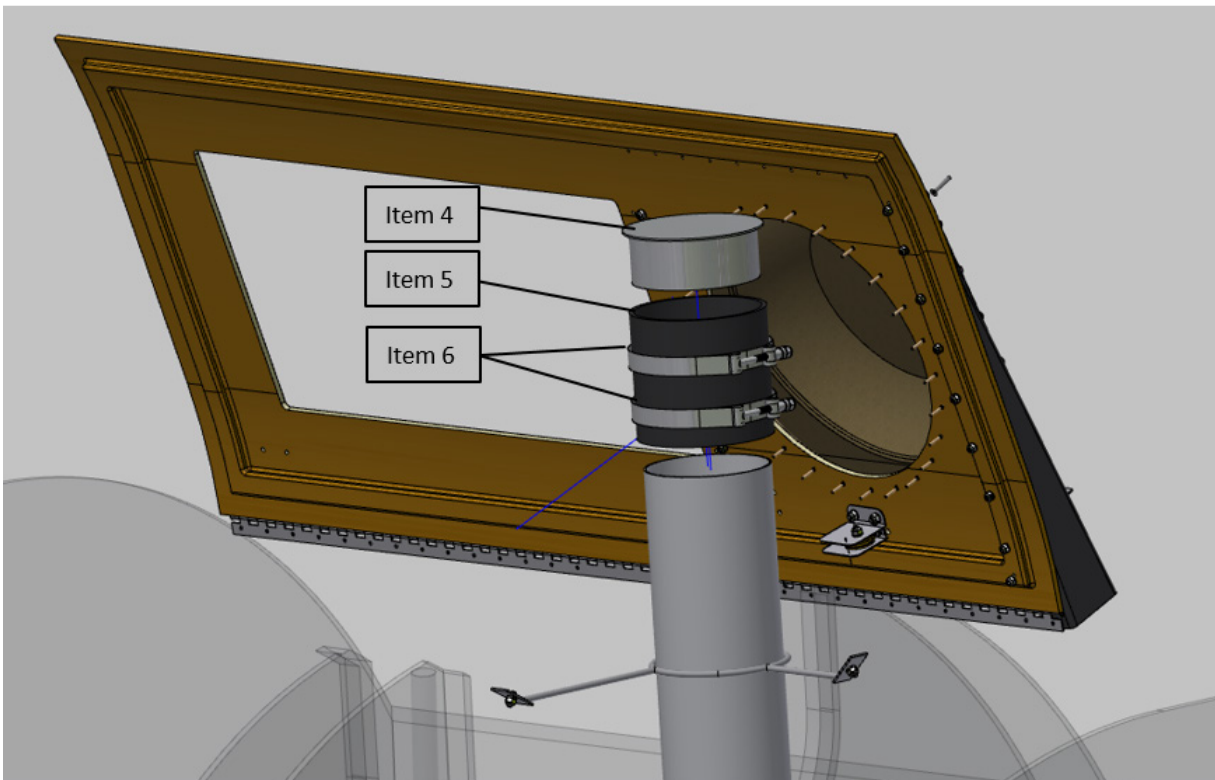

Figure 5 - Plug Installation on Hopper Vent
14. Pre-assemble the plug (item 4) into the hose coupling (item 5) using pro-seal with bolt hose clamp (item 6) to make assembly. Install the assembly from the previous step onto the vertical vent pipe using pro-seal during the installation. (See Figure 5).
15. Remove the vertical vent pipe cap from the rubber coupler side. (See Figure 5).